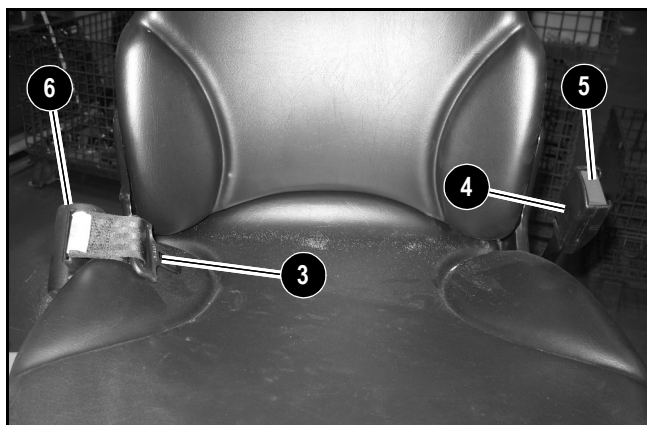

Figure 3-22 Seat Belt
Fasten the seat belt around your hips and waist and insert tab (3, Figure 3-22) into buckle (4) until it clicks securely in place. Slack in the seat belt should automatically retract into seat belt spool (6).